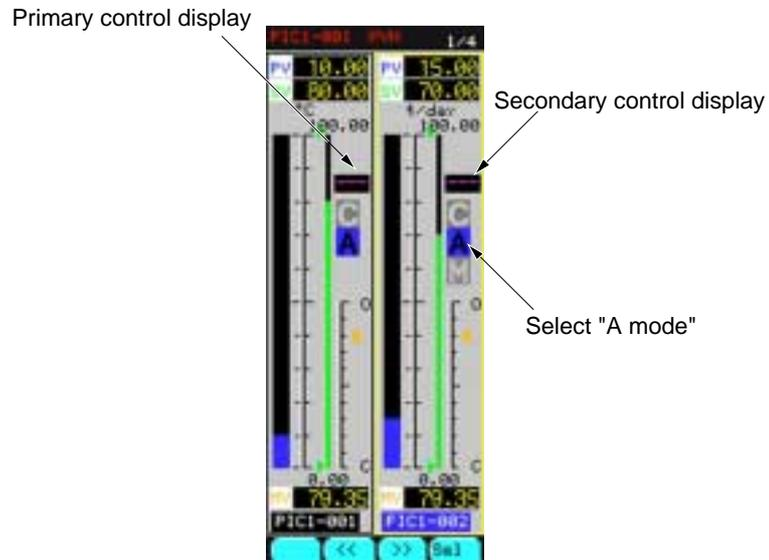

Fig. 4-48
- ① Hold down the **A** key several seconds. "A" will light (Fig. 4-48).
- ② Using the "SV-UP" and "SV-DOWN" keys, operate the secondary SV.